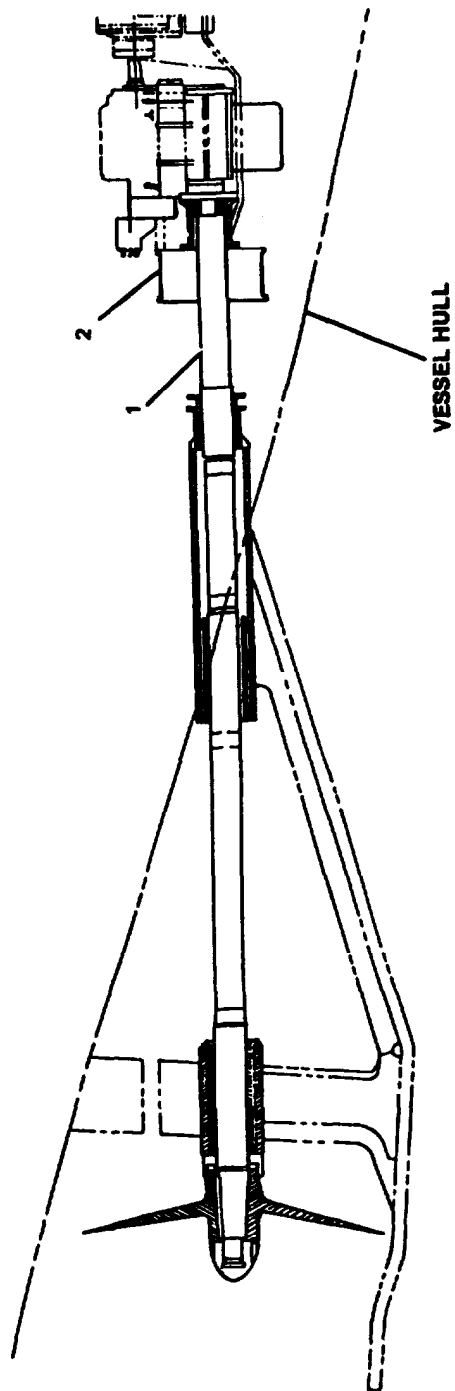
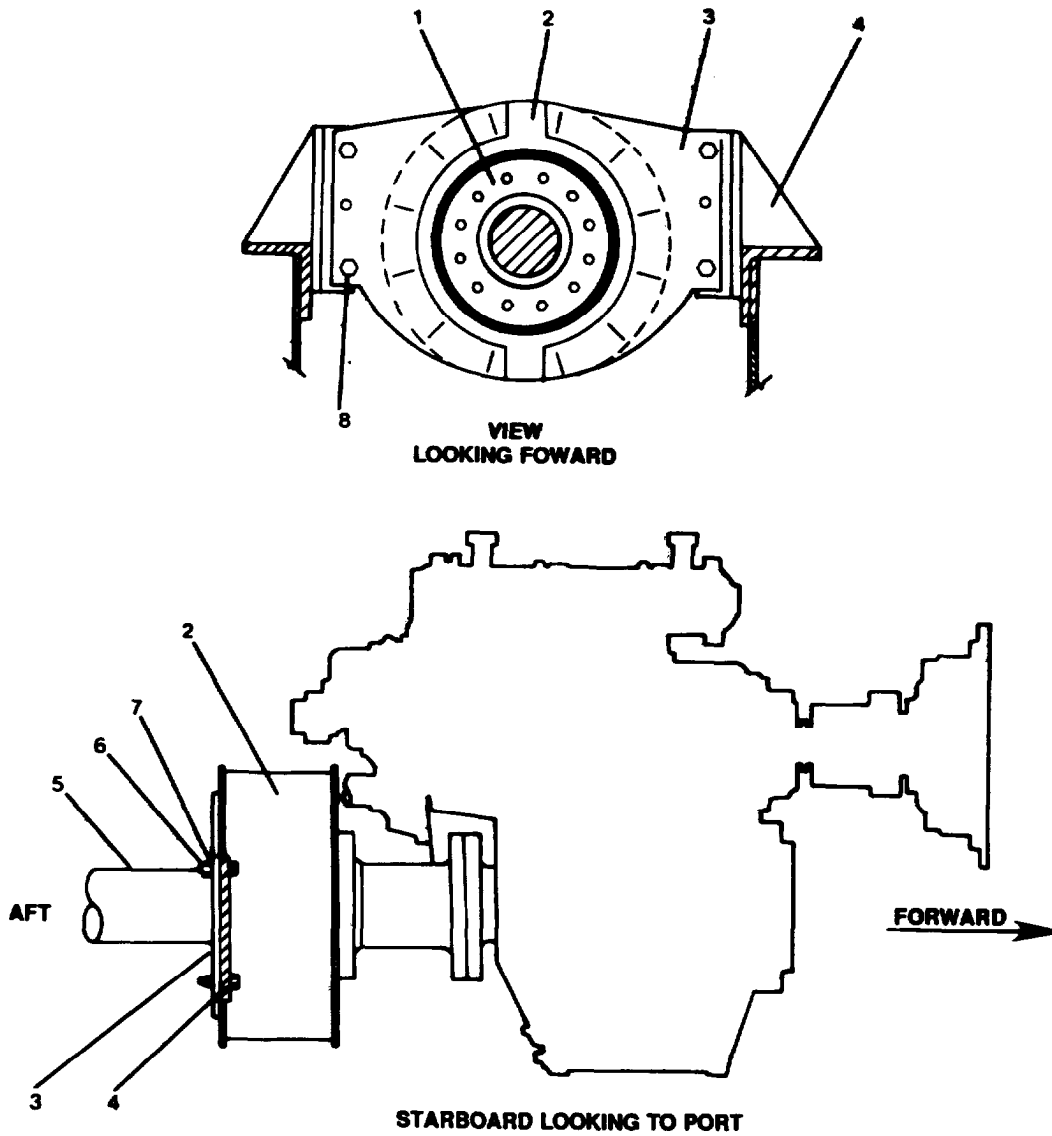

FIGURE 2-227. Propeller Shaft Assembly.
FIGURE 2-228. Expander Tube Brake.
- b. Visually inspect the port and starboard propeller shaft (1, FIGURE 2-227) inside the vessel hull for straightness or structural cracks. If the propeller shaft is found to be bent or have structural cracks, maintenance by shipyard facility is required. Notify your supervisor.
- c. Visually inspect the port and starboard expander tube brake (2) as follows:
- (1) Check for obvious defects on the brake drum (1, FIGURE 2-228) surface such as grooves or worn areas.
- (2) Check socket head capscrews (8), lockwashers (7) and hexagon nuts (6) securing brake element support brackets (3) to brake mounting support brackets (4) for security. If loose, use a torque wrench and tighten bolts to 600 ft-lb torque.
- (3) Check the brake elements (2) for obvious defects such as loose or broken parts. If loose or broken parts are observed, repair brake elements in accordance with paragraph 3-174.